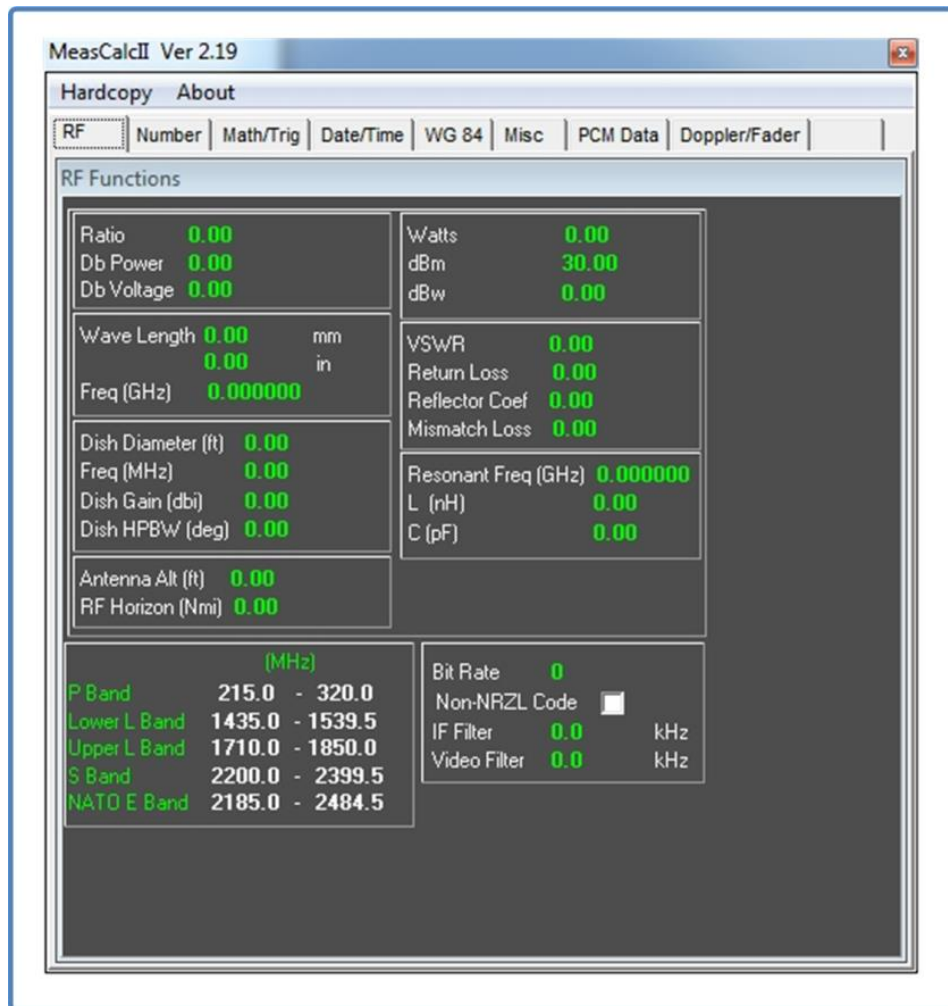

Figure 4-16 Tools – Measurements Calculator II Utility
- c. Measurement Calcs - This utility provides calculations that are associated with telemetry values. These include RF measurements of many types, calculation of telemetry data such as date and time formats, frame rates, and other useful data. See Figure 4-16.